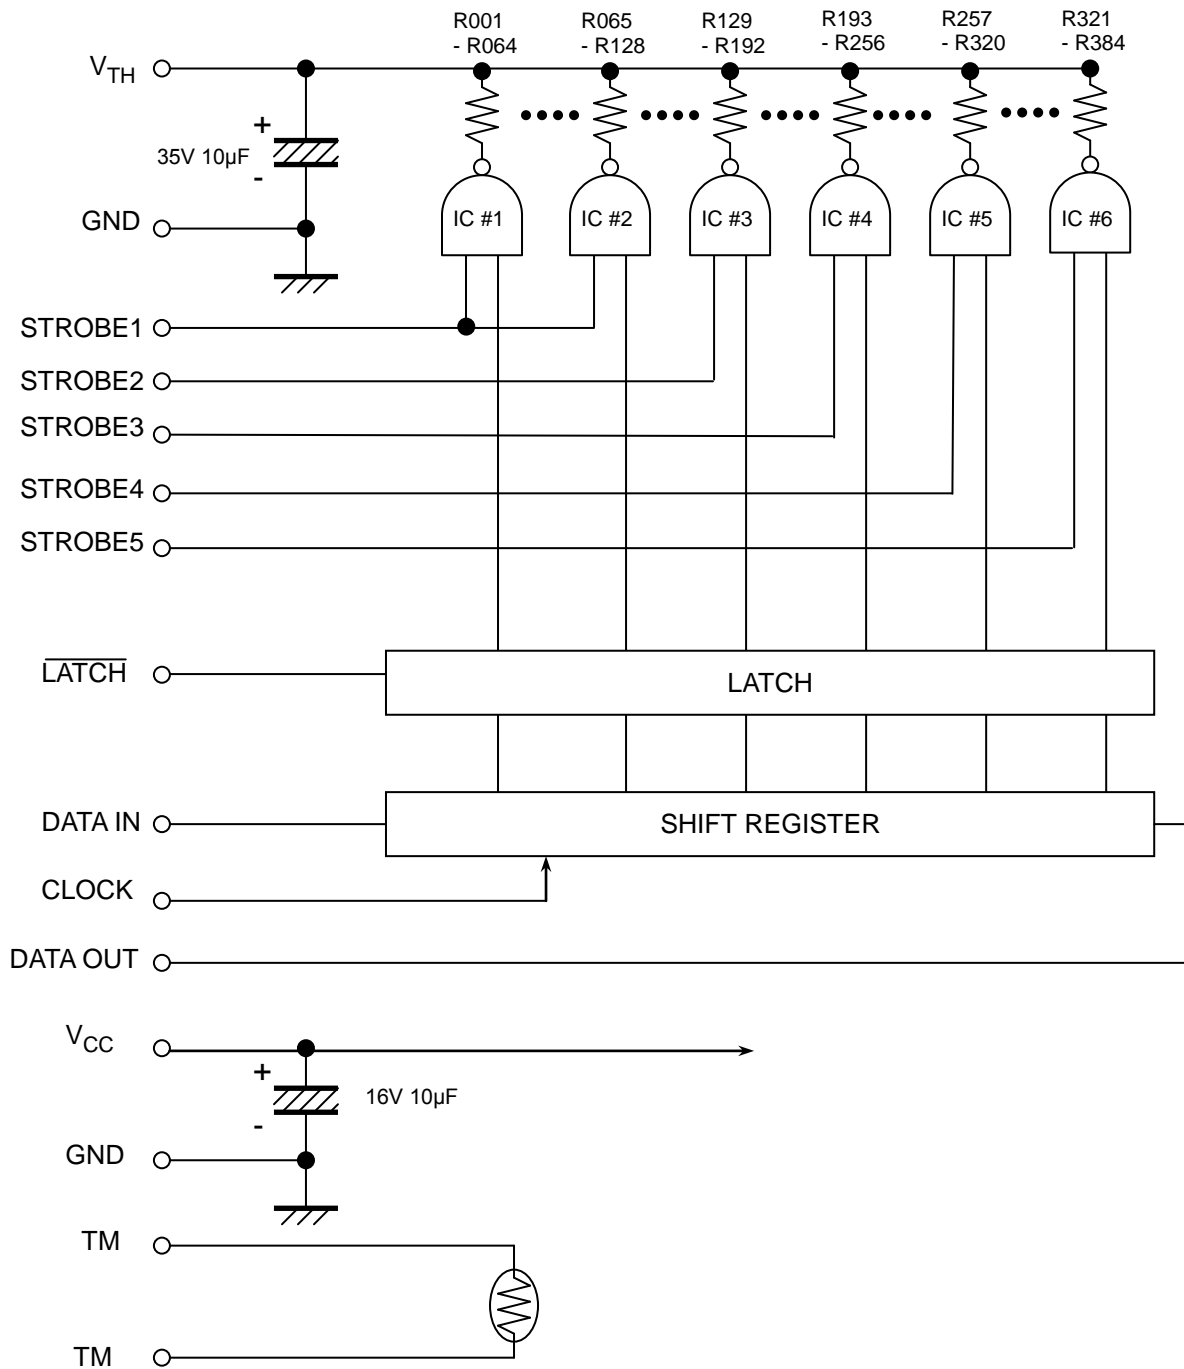

Fig.2 Schematic diagram
| (1) Schematic diagram | see Fig. 2 |